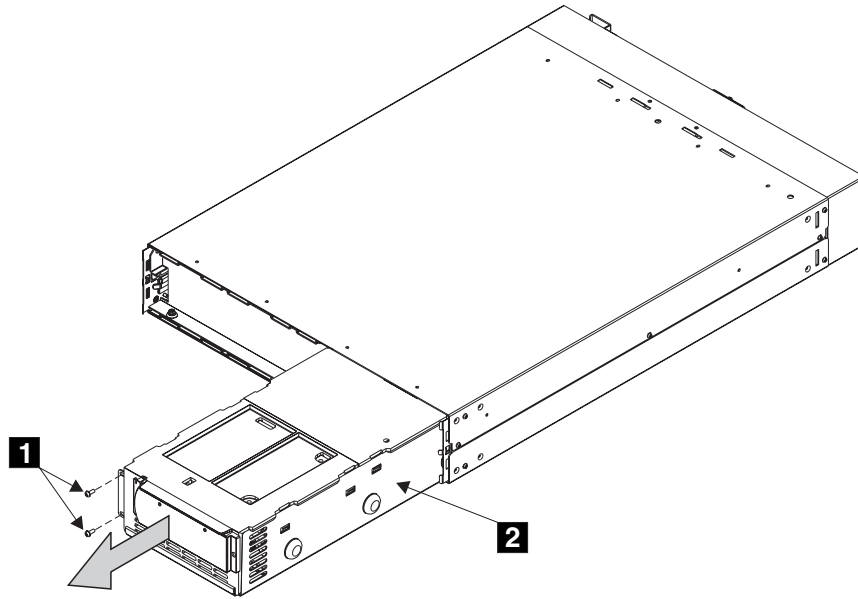

Figure 295. Removing the 2145 uninterruptible power supply electronics assembly
- a. Remove the two screws **1** (see Figure 295 on page 621).